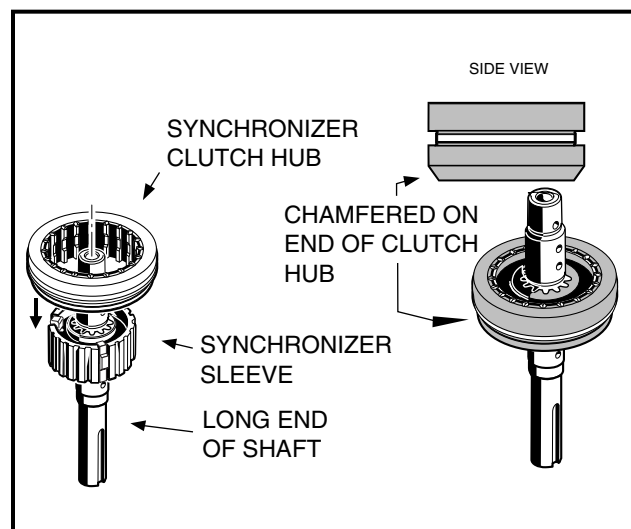

Figure 5-29 Synchronizer Clutch Hub
- 1.4. Install the synchronizer clutch hub (49) (**Figure 5-11, Page 5-7**) onto the synchronizer sleeve. Make sure the chamfered end of the hub is oriented toward the long end of the input shaft (**Figure 5-29, Page 5-17**).
- 2.4. Install the synchronizer clutch hub (49) (**Figure 5-12, Page 5-8**) onto the synchronizer sleeve. Make sure the chamfered end of the hub is oriented toward the long end of the input shaft (**Figure 5-29, Page 5-17**).